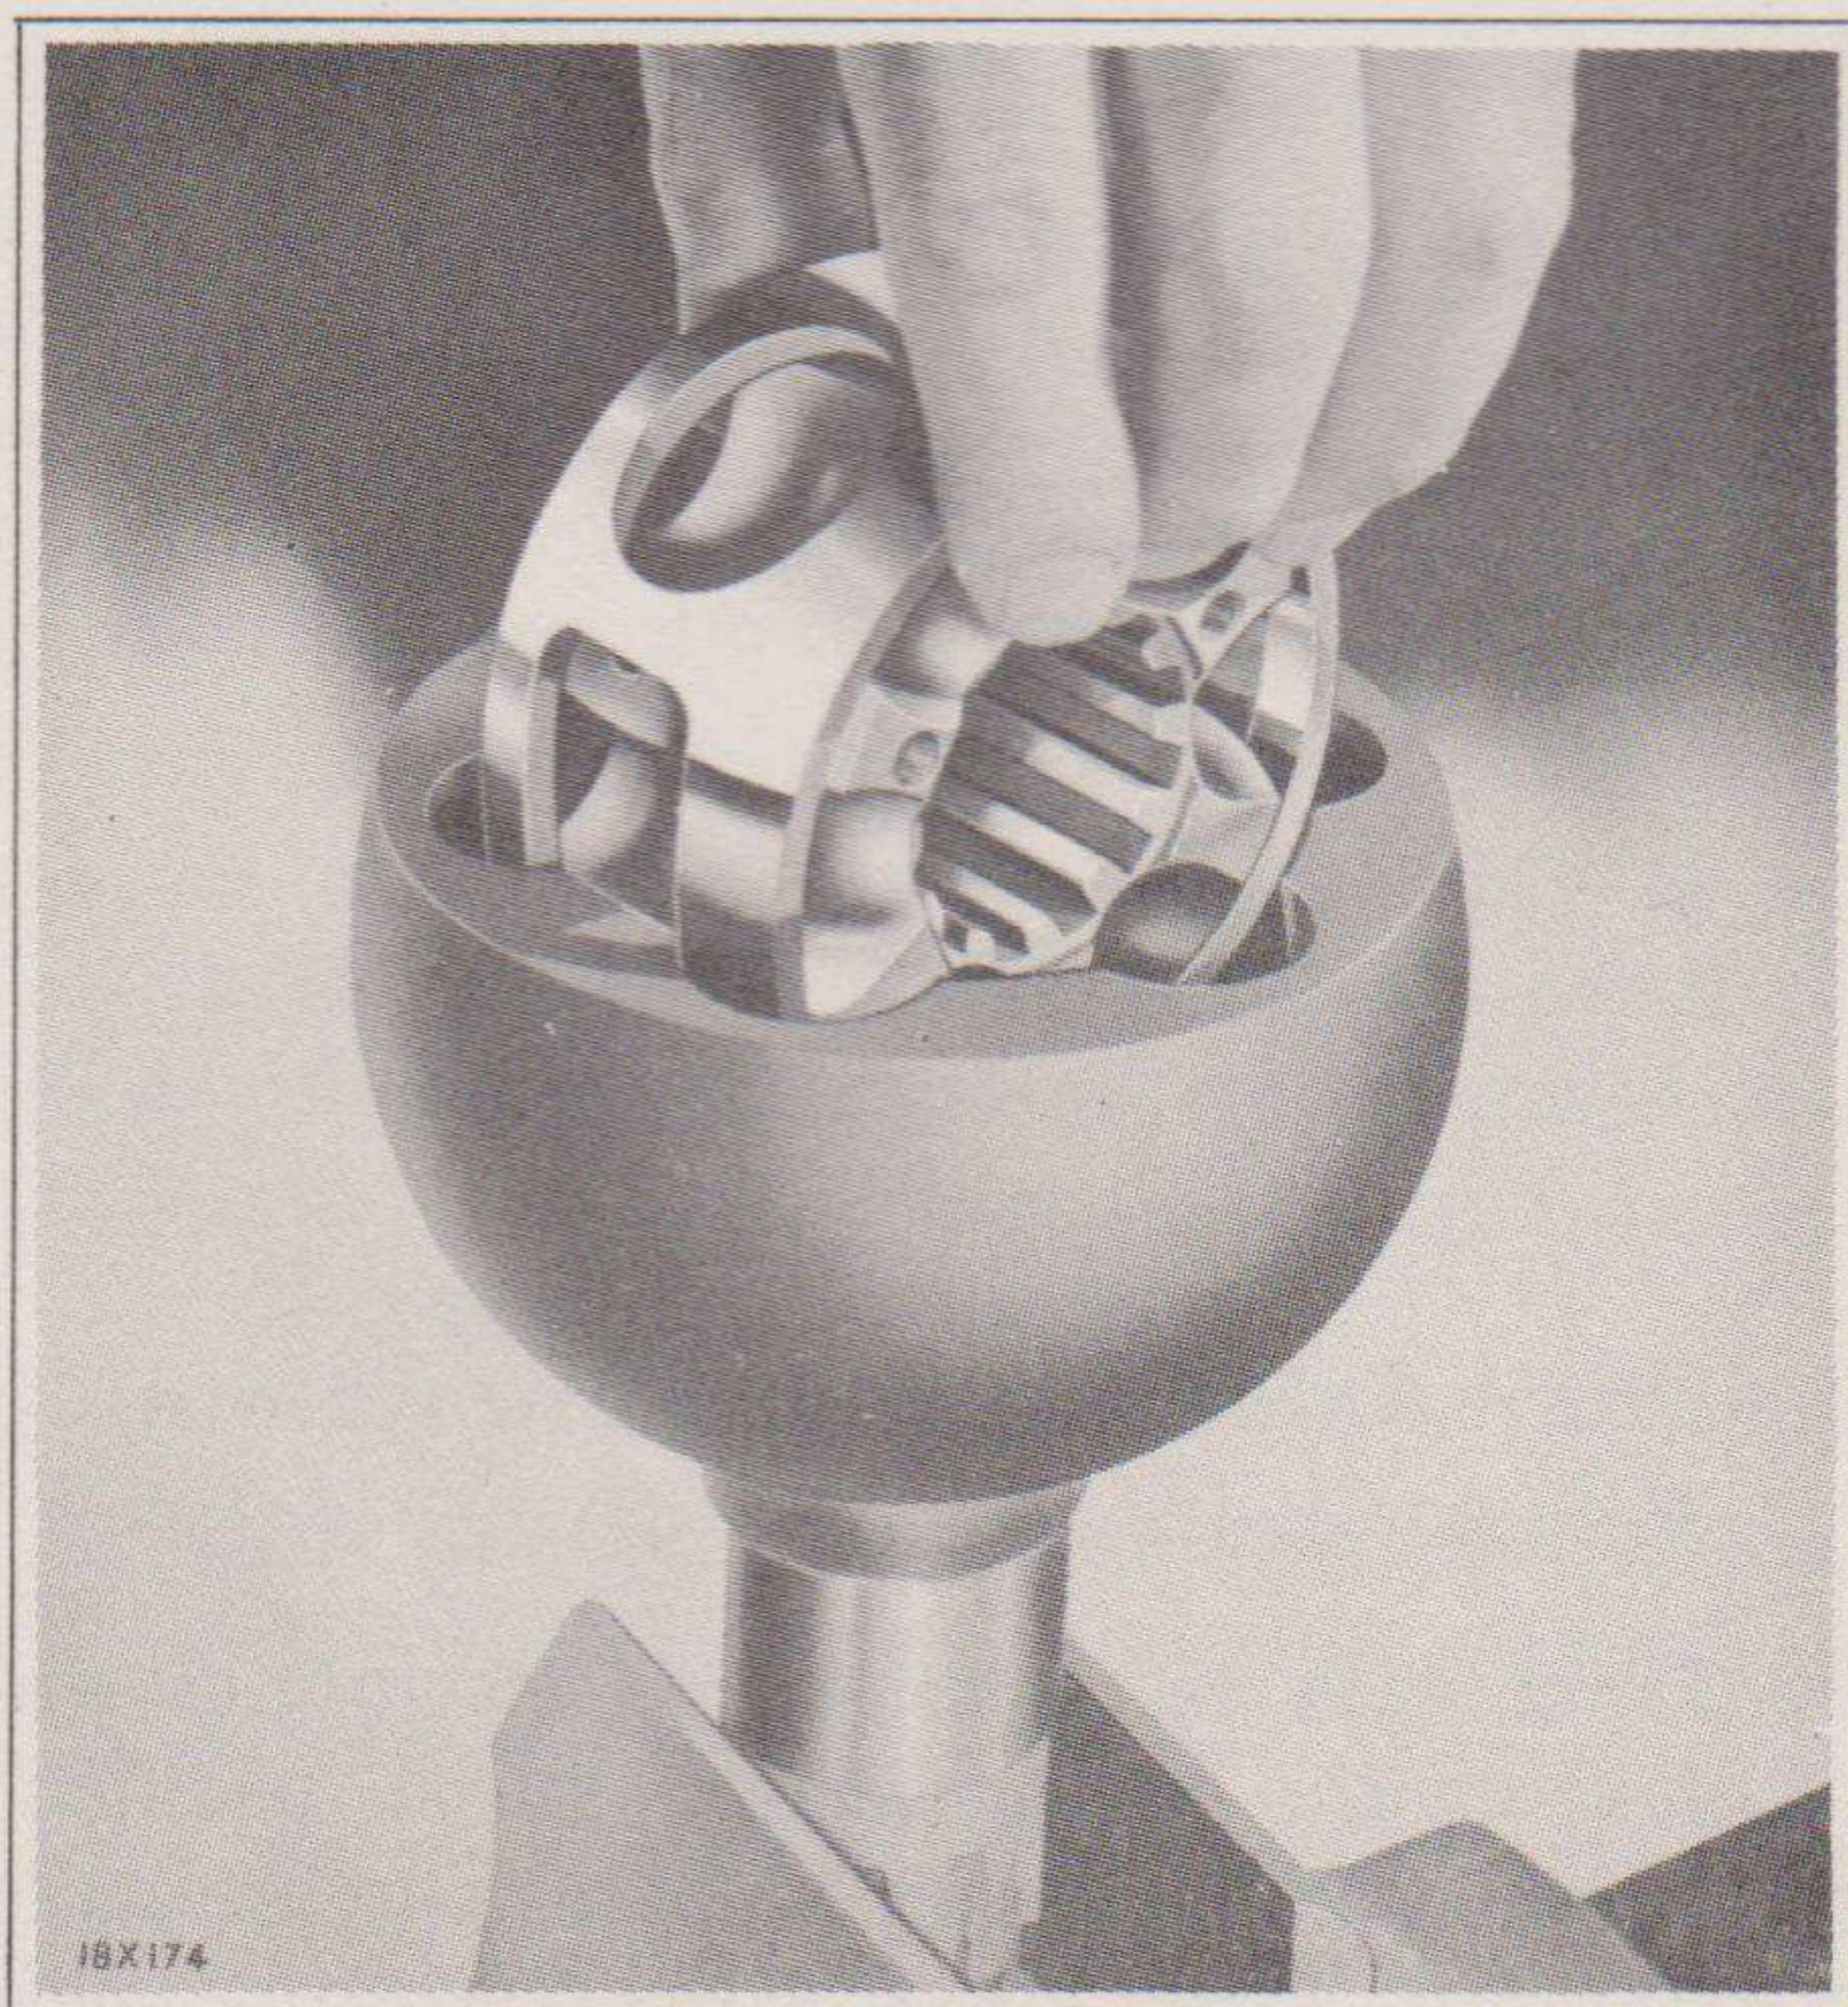

Fig. 25—Removing Universal Drive Inner Race and Ball Cage (Rzeppa)
- (h) Rotate the race and cage unit back part way, as shown in Fig. 25, to bring the two elongated slots on opposite sides of the ball